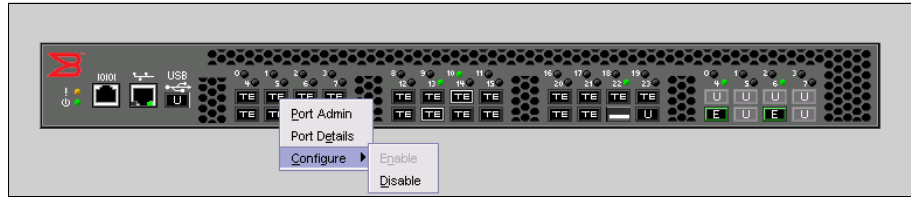

Figure 5-40 Enable/disable a port
2. Click **Configure** to display the Enable and Disable options (Figure 5-40 on page 186).